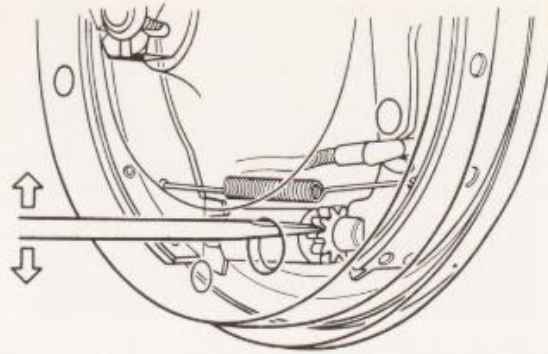

Fig. F-3. Method of using screwdriver through opening in wheel to adjust brake shoes.
- 6 - Insert a screwdriver through hole and turn adjusting nut, using a screwdriver as a lever, until a light drag is felt when wheel is turned, Fig. F-3.